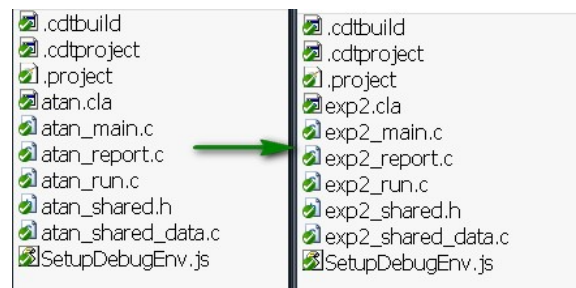

Figure 5.5: Creating a new project from existing examples
- Rename all files `atan*.*` to `exp2*.*`. (Notice the naming convention. All files have the test folder name as a prefix, see Fig. 5.5 below)